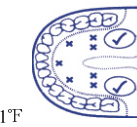

Figure 2
- Oral Use: Place thermometer under the tongue as indicated by " / " position shown in Figure 2. Close your mouth and breathe evenly through the nose to prevent the measurement from being influenced by inhaled/exhaled air. Normal temperature is between 96.3°F and 99.1°F (35.7°C and 37.3°C).